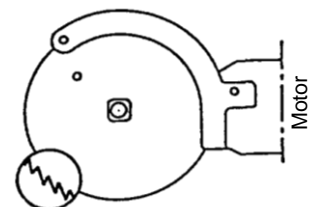

Fig. 7.3 – Direction of blade teeth
- 1) Place the saw blade ready for use on the square holding fixture; the teeth must point towards the motor on the underside, see Fig. 7.3.
- 2) Insert the retention pin (A) into the hole in the saw blade (H) and turn it with the saw blade against the protective hood (T). Place open-end wrench (G) on hexagon clamping nut (M) and clamp tightly in the direction shown (tightening torque: 50 Nm).